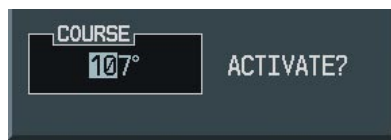

Figure 5-29 Entering a Direct-to Course
- 3) Enter the desired course (Figure 5-29).